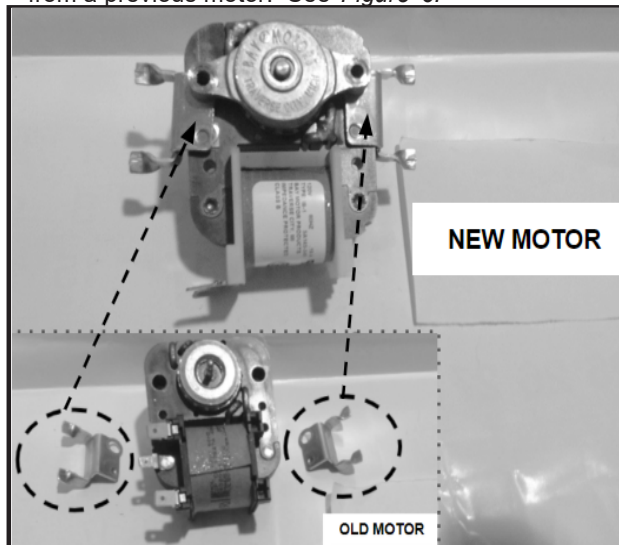

Figure 6
- Insert the mounting brackets from the old motor into the new motor, then the new motor bearing block. **NOTE:** Installation of this kit requires the mounting brackets from a previous motor. See *Figure 6*.